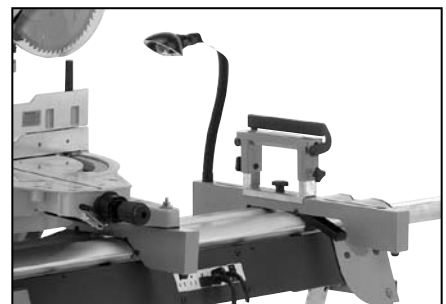

Figure 9
13. The roller support can also be used on the WorkCenter bed for supporting smaller workpieces. Remove the roller support from the “T” support by loosening knob **5** and sliding head of carriage bolt to round opening in slot. The roller support can then be attached to the work light with machine support or additional machine support as shown in Figure 9.